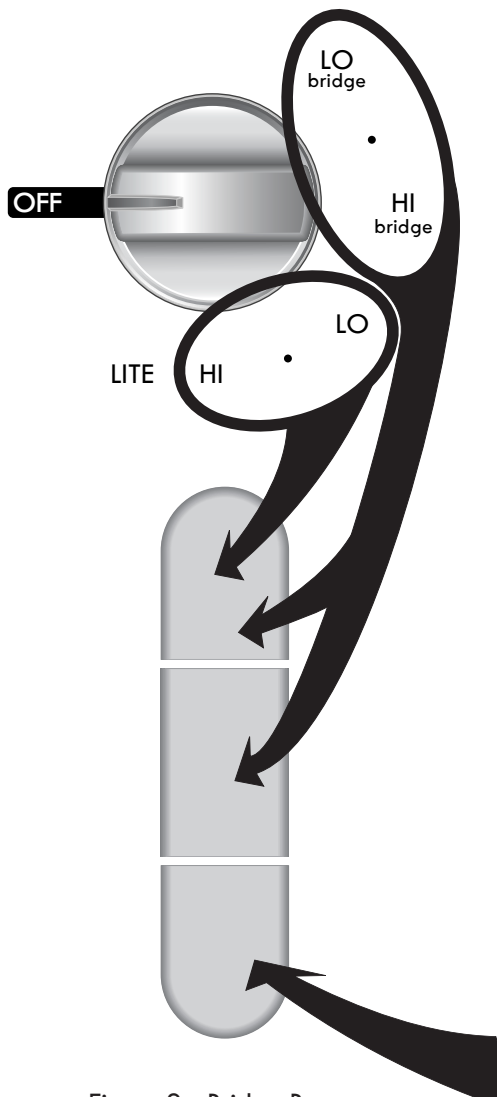

Figure 2 - Bridge Burner
1. Push the left rear surface control knob in and turn **counterclockwise** out of the OFF position (See Figure 2).
2. Release the knob and rotate to the **LITE** position (See Figure 2). Note: All electronic surface ignitors will spark at the same time. However, only the selected surface Burner will lite.